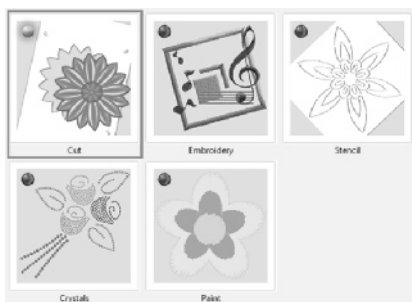

Fig. 1
2. In the *Techniques* dialog, select just the Cut option (See Fig. 1). Remove the bullets from all other techniques and <Next>.